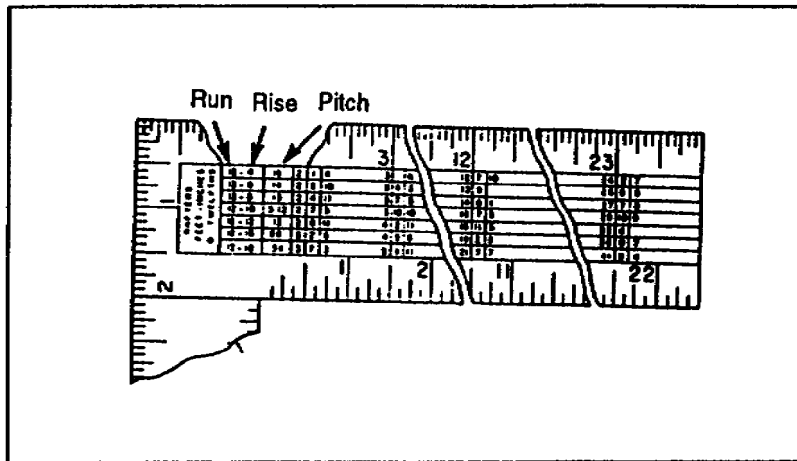

Figure 3-14. Pitch on the rafter table
- Pitch. The third column of figures, in fractions, represents various pitches:  $\frac{1}{6}$ ,  $\frac{1}{4}$ ,  $\frac{1}{3}$ ,  $\frac{5}{12}$ ,  $\frac{1}{2}$ ,  $\frac{5}{8}$ , and  $\frac{3}{4}$  (see Figure 3-14, page 3-10).